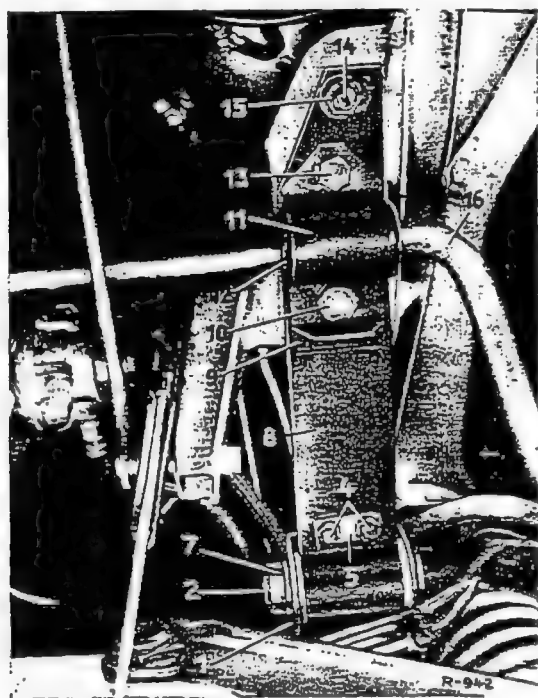

Fig. 33-1/3
7. Disconnect the brake hose from the brake line left and right at the chassis base panel (Fig. 33-1/9).